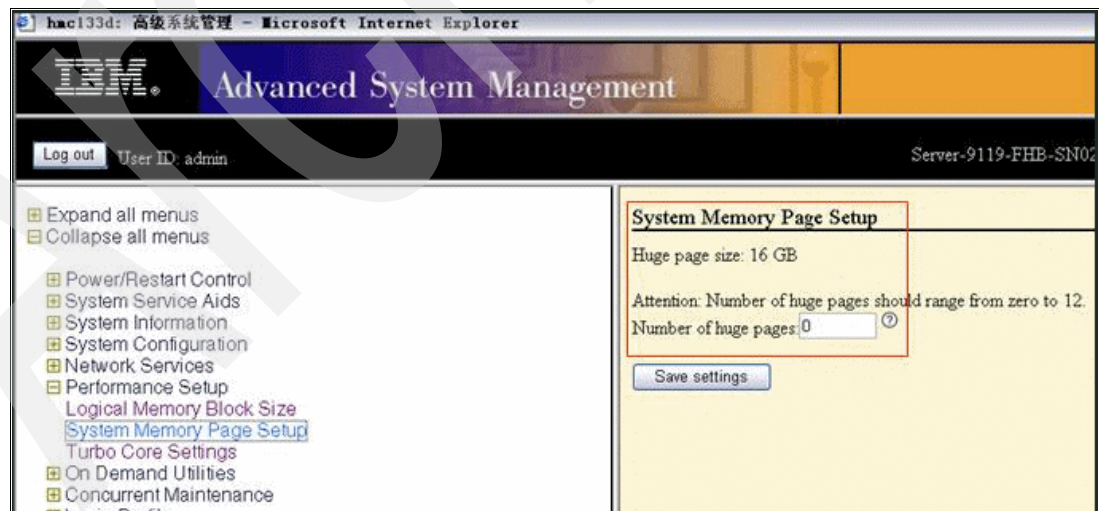

Figure 7-13 Configuration of system memory huge-page setup
5. Click **Save Settings** and power on the server. Refer to Figure 7-13.